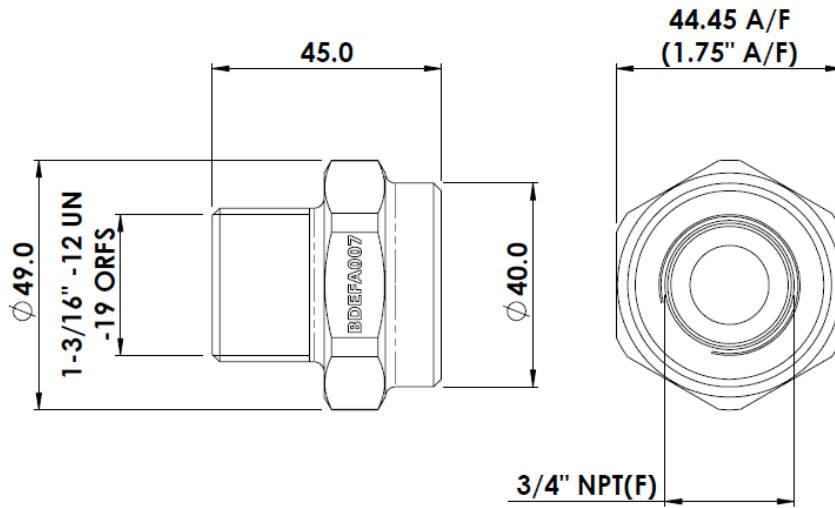

Figure 20 – Details of BDEFA007 Adaptor
| BDEFA007 (Figure 20) | Adaptor, DEF, 1-3/16" -12 UN(M) x ¾" NPT(F) | ¾" NPT(F) 1-3/16" -12 UN male | Adapts Banlaw DEF receiver to replace Hartmann -12 DEF receiver |